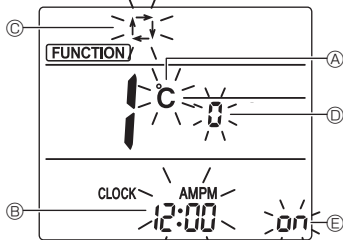

Fig. 6-6
The Screen display setting screen will be displayed. (Fig. 6-6)
6.8.2. Changing the temperature unit (Fig. 6-6 ①)
- Press the **TEMP** button ⑤.
- Each time the **TEMP** button ⑤ is pressed, the setting switches between **°C** and **°F**.
6.8.3. Changing the time display (Fig. 6-6 ②)
- Press the **TIME** button ⑥.
- Each time the **TIME** button ⑥ is pressed, the setting switches between **12:00** and **24:00**.
6.8.4. Changing the AUTO mode (Fig. 6-6 ③)
- Press the **MODE** button ⑦.
- Each time the **MODE** button ⑦ is pressed, the setting switches between **1** and **2**.
6.8.5. Changing the pair No. (Fig. 6-6 ④)
- Press the **UP** button ④.
- Each time the **UP** button ④ is pressed, the pair No. 0-3 changes.